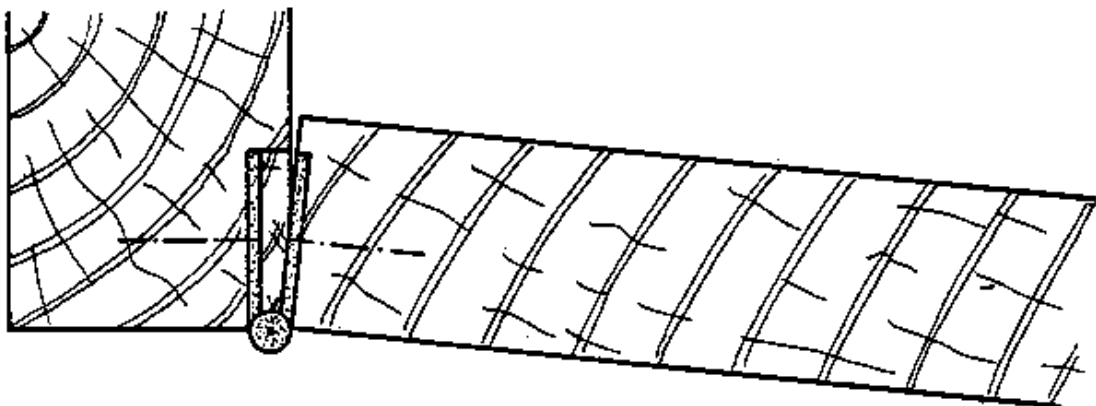

Fig. 3
- One possible reason that a door won't close well is that it is hinge bound/This means that the leaves of the hinges are set too deep. To remedy this, you must remove the hinge and place a thin piece of wood between the leaf and the post (Fig. 3).